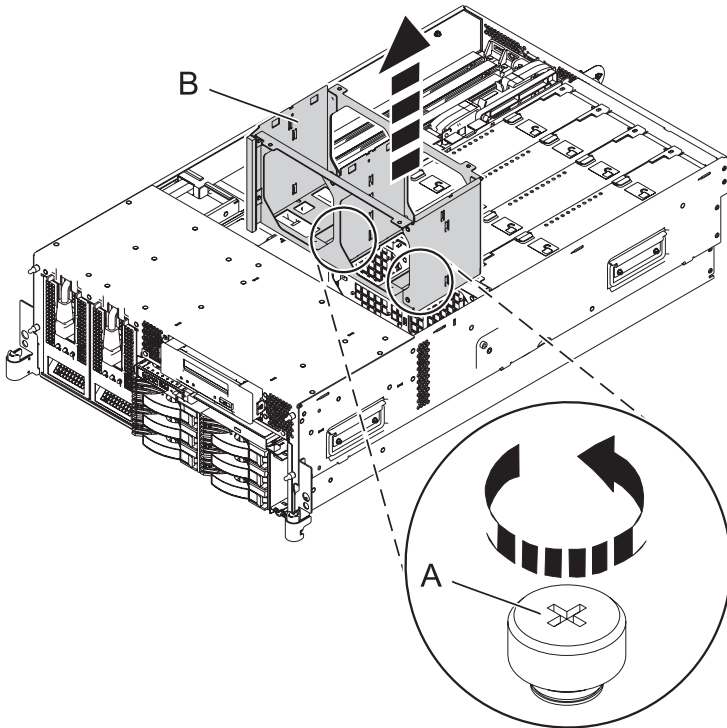

Figure 9. Removing the fan cage from the 8204-E8A or 9409-M50 system
- 3) To remove the fan cage, loosen the two thumbscrews (A) and lift the fan cage (B) out of the system as shown in Figure 9.